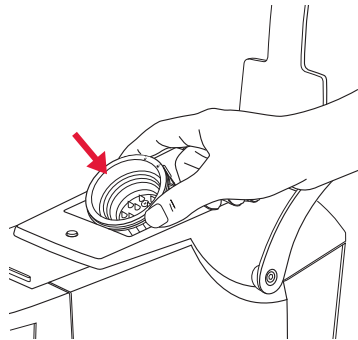

Figure 4
6. Push capsule holder firmly into the cradle. See figure 4.